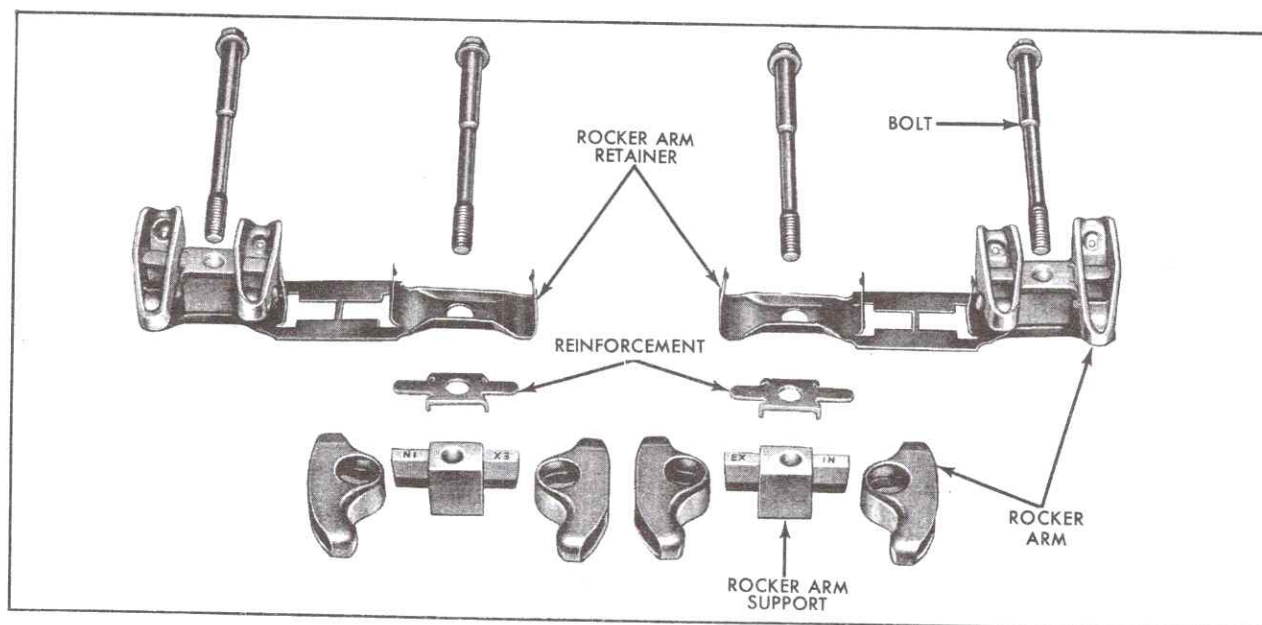

Fig. 6-132 Rocker Arm Assembly Disassembled
3. Remove rocker arm support assemblies from retainers and remove rocker arms from supports Fig. 6-132. Be sure to keep the supports and rocker arms in order so they can be installed in the exact same position.
1. Install rocker arms on supports and place supports in retainers as shown in Fig. 6-132.